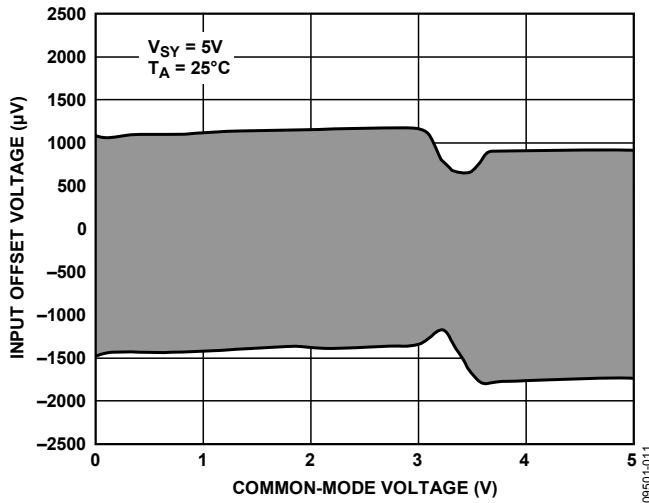

Figure 10. The Input Offset Voltage of a Rail-to-Rail Amplifier Can Change Dramatically as the Common-Mode Input Voltage Changes.
For low voltage designs, a rail-to-rail (RR) output and input may be appropriate. As the common-mode input goes from one rail to the other, one differential input pair takes over as the other differential pair stops working. Offset voltages and input bias currents can change suddenly, causing distortion as shown in Figure 10. For low noise design, question the need for the RR input feature.